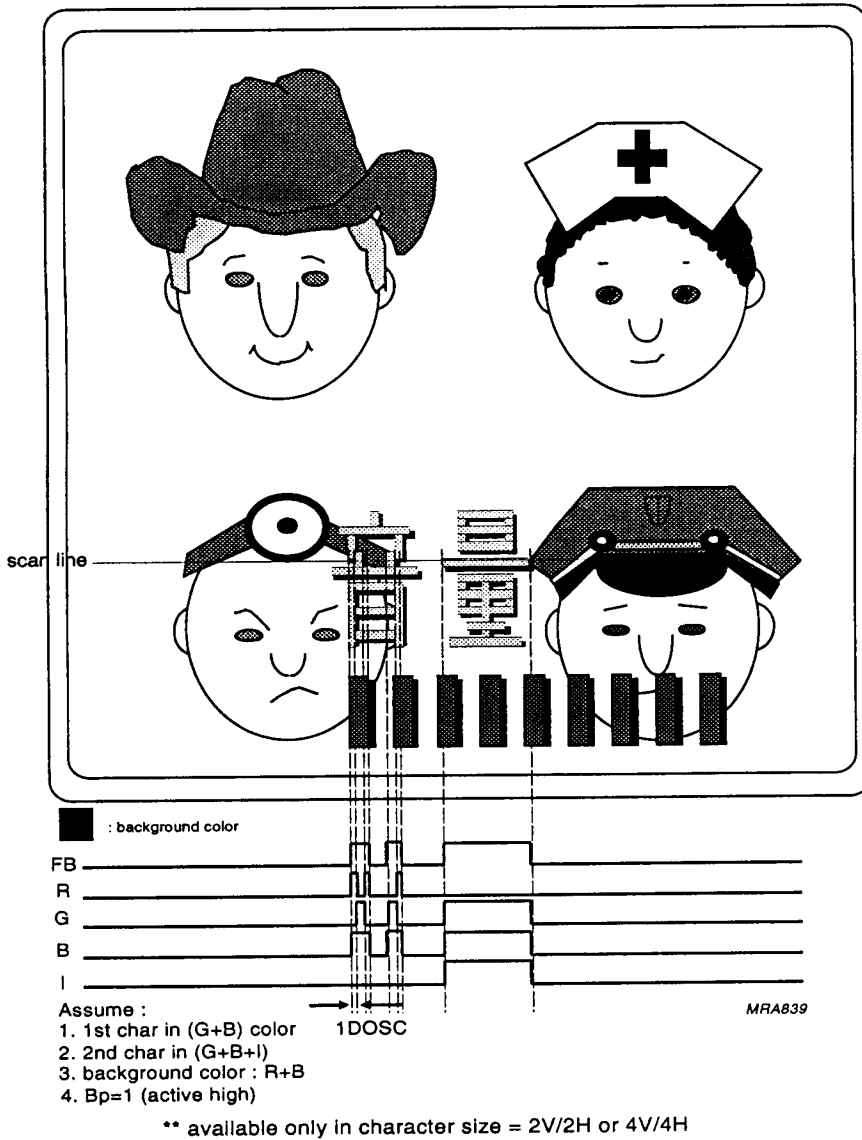
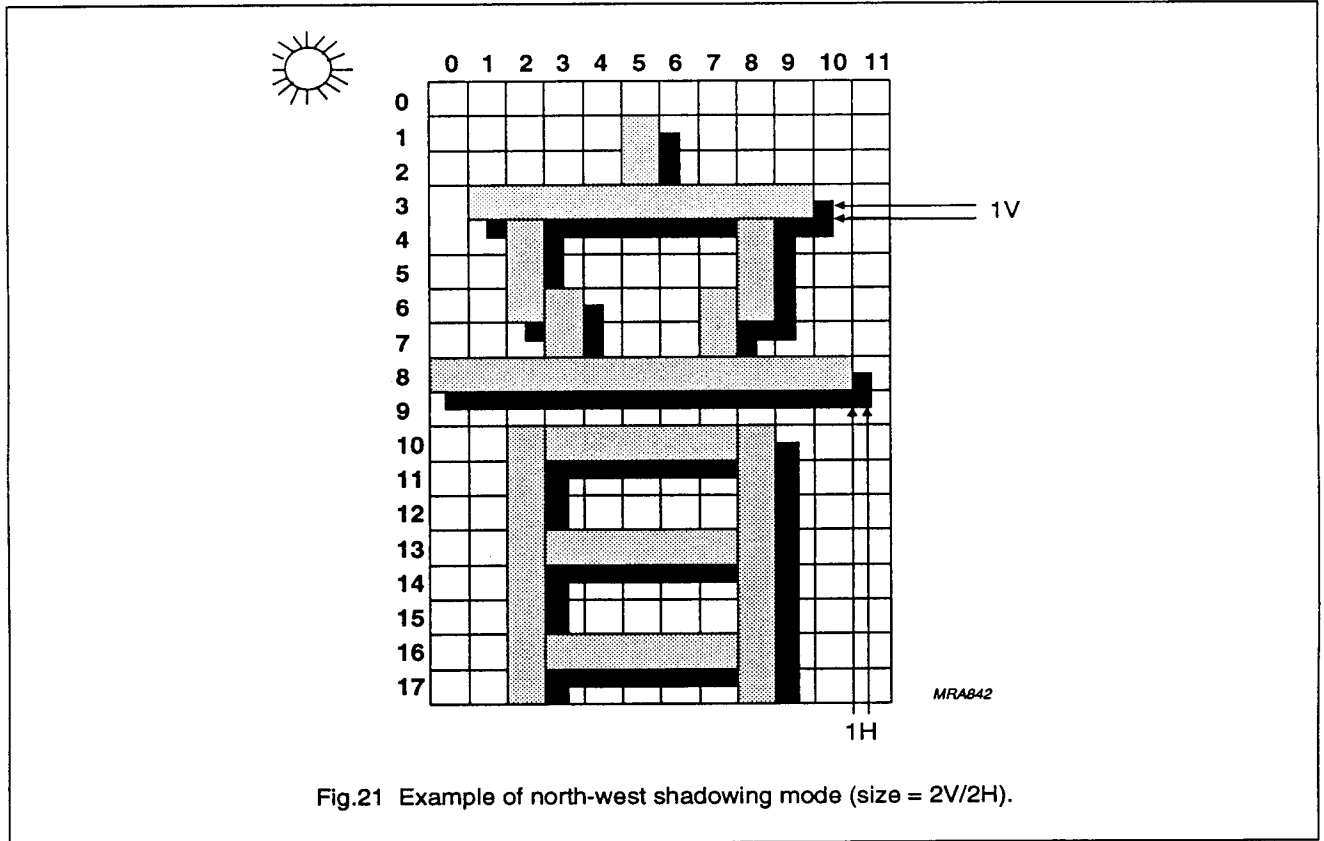
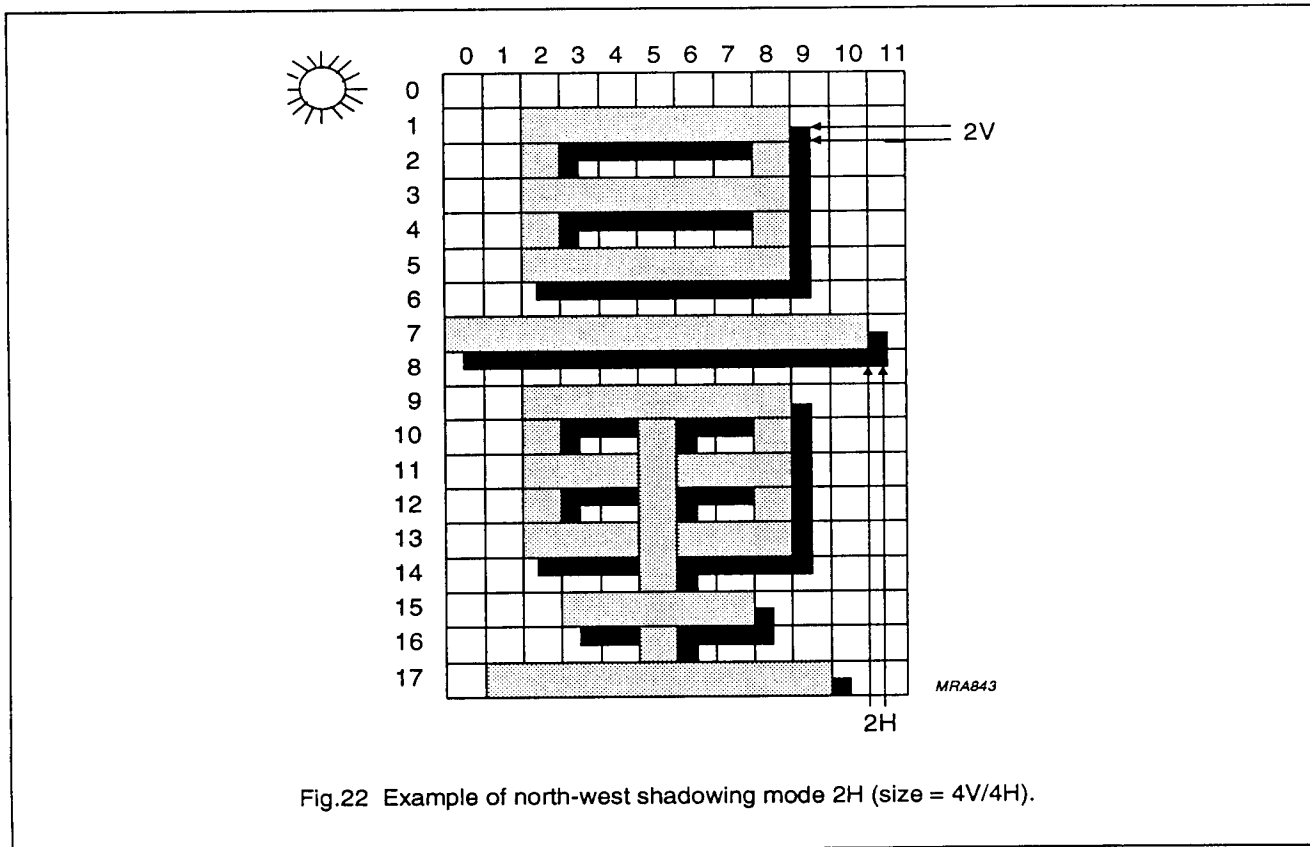

Fig.18 Background shadowing mode (II): North-west Shadowing.
Fig.21 Example of north-west shadowing mode (size = 2V/2H).
Fig.22 Example of north-west shadowing mode 2H (size = 4V/4H).
**Mode 1:** (Fig.18) S1,S0 = 01, north-west shadowing, available only in the character size = 2V/2H or 4V/4H. The shadows of the characters are generated by placing a light source on the north-west 45 °C direction, (see also Fig.21 and Fig.22). The shadow generated by the north-west shadowing mode is only within the 18 rows in vertical direction although it can be one bit extended to next font's 1st column in horizontal direction. Figs.23 and 24 illustrate how to design the bit pattern to get the required north-west shadow effect.